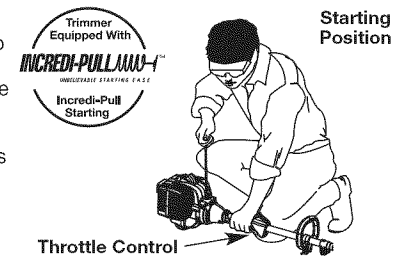

Fig. 16
**WARNING:** Avoid accidental starting. Make sure to be in the starting position when pulling the starter rope (Fig. 16). To avoid serious injury, the operator and unit must be in a stable position while starting.
5. Crouch in the starting position (Fig. 16). Do not squeeze the throttle. Pull the starter rope with a controlled motion until the unit starts.
- Crouch in the starting position (Fig. 16). Do not squeeze the throttle. Place the Plug-In Power Start or Power Bit Start into the back of the unit. Refer to the *Operation* section of the Plug-In Power Start or Power Bit Start operator's manual.
- Press and hold the ON (I) button of the Plug-in Power Start or Power Bit Start equipped drill in intervals no longer than 4 seconds each until the unit starts.
- Wait and allow the unit to idle for 5 - 10 seconds. If the unit stops running during this time, squeeze the throttle control, then press and hold the ON (I) button of the Plug-in Power Start or Power Bit Start equipped drill in intervals no longer than 4 seconds each until the unit starts.
- IF...** The engine fails to start after a few attempts, squeeze the throttle control, then press and hold the Plug-In Power Start or drill ON (I) button in intervals no longer than 4 seconds each until the unit starts.